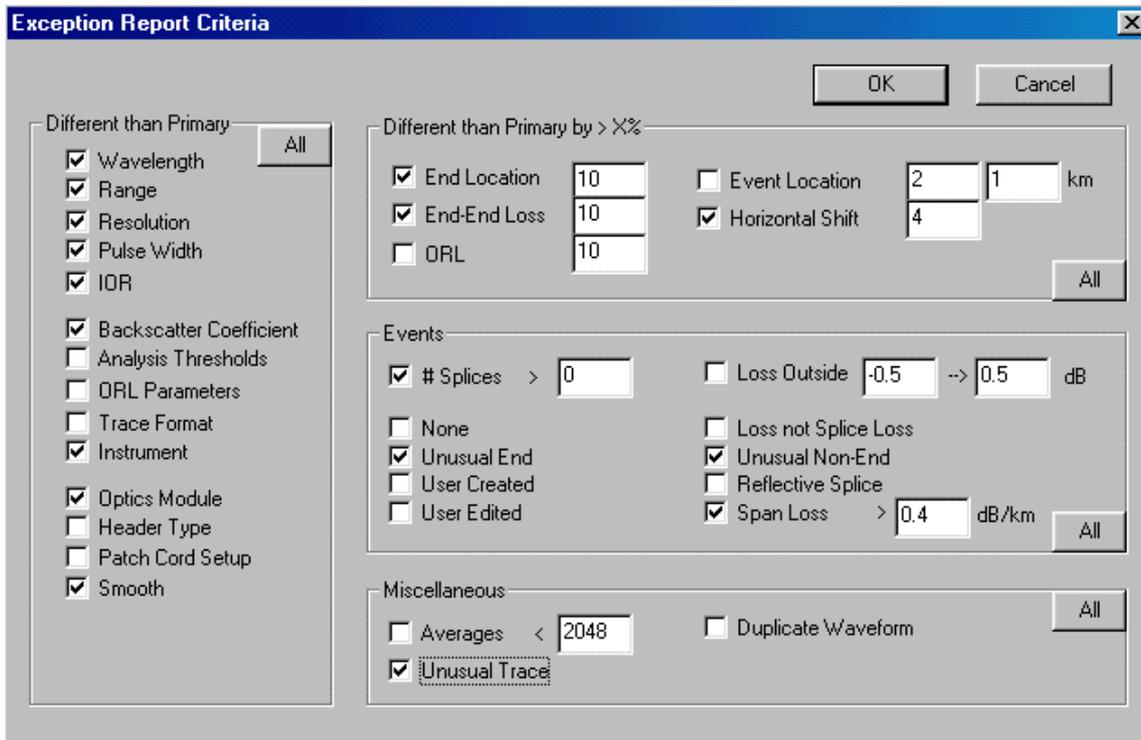

Figure F-2: Exception Report Dialog Box
7. Select the desired criteria in the Exception Report dialog box (Figure F-2) and click **OK**.